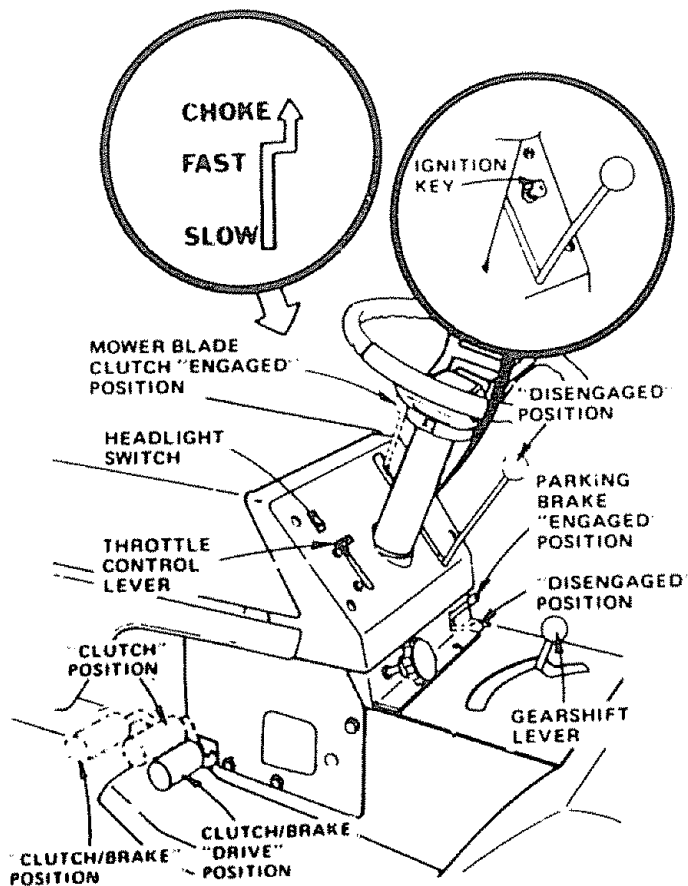

FIGURE 7
- Push clutch-brake pedal into full "BRAKE" position. Keep your foot on pedal. (Fig.7)
- Place attachment clutch lever in "DISENGAGED" position. (Fig.7)
- Move gear shift lever to "NEUTRAL" position. (Fig.7)
- Place parking brake in "ENGAGED" position and release pressure from clutch/brake. Pedal should remain in "BRAKE" position. (Fig.7)
- Move throttle control to "S" (slow) position. (Fig.7)
- Turn ignition key to "OFF" position. Never use choke to stop engine. (Fig.7)
- Move throttle control lever (Fig. 7) past "FAST" to the "CHOKE" position.